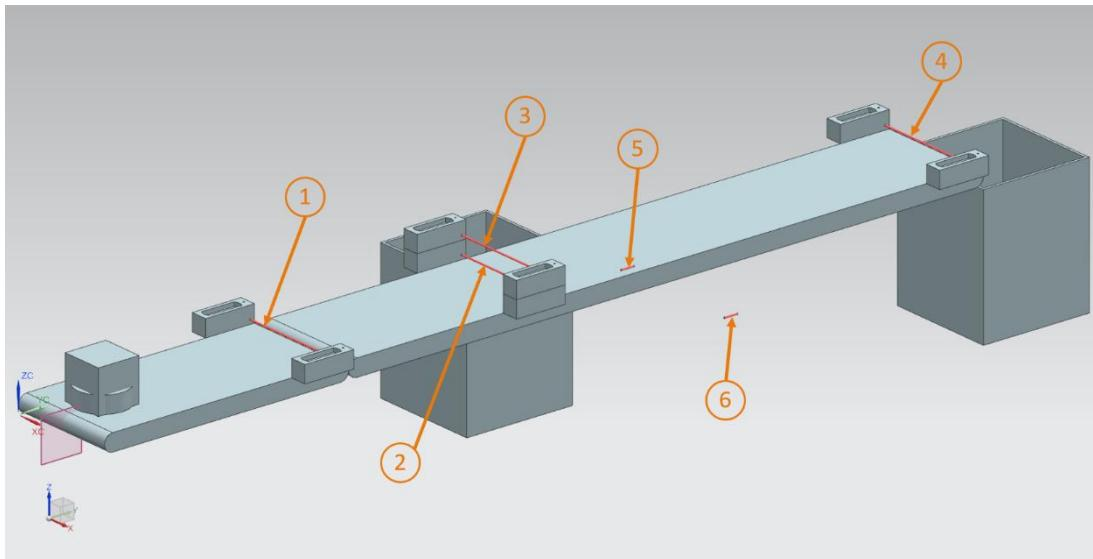
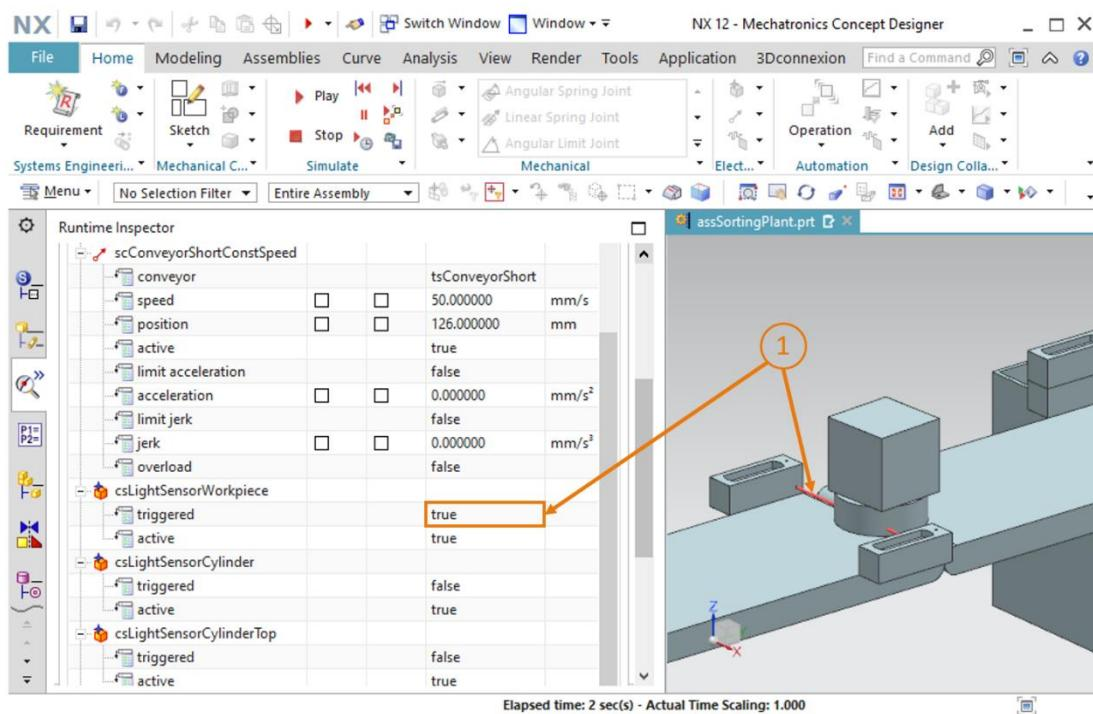

Figure 51: Overview of all collision sensors in the sorting plant
Figure 52: Behavior of the collision sensors of the light sensors during the simulation
→ You have now created the first collision sensor (highlighted in Figure 51, step 1). Define the remaining collision sensors as follows:
- The **lower light sensor in the middle of the rear conveyor belt "conveyorLong"** (see Figure 51, step 2) is to be created as a collision sensor named "**csLightSensorCylinder**" for the purpose of detecting cylindrical workpieces.
- The **upper light sensor in the middle of the rear conveyor belt "conveyorLong"** (see Figure 51, step 3) is to be created with the name "**csLightSensorCylinderTop**" for the unequivocal differentiation of cylindrical and cuboid workpieces. This is possible because the cylindrical and cuboid workpieces have different heights so that only the smaller cylindrical workpieces are detected by the lower light sensor and the larger cuboid workpieces are detected by both light sensors.
- The remaining workpieces on the conveyor belt are counted with the **light sensor at the end of the long conveyor belt "conveyorLong"** (see Figure 51, step 4). With correct sorting, only cuboid bodies will be remaining. The name of the associated collision sensor is to be "**csLightSensorCube**".
- The **limit sensor at the end of the ejector** (see Figure 51, step 5) will detect if the ejector is not yet fully extended. In this case, select **the limitSwitchSensor at the end of the ejector** as the collision sensor object in the Assembly Navigator. Name the collision sensor "**csLimitSwitchCylinderNotExtended**".
- The **limit sensor at the beginning of the ejector** (see Figure 51, step 6) signals that the ejector is fully retracted. Assign this collision sensor the name "**csLimitSwitchCylinderRetracted**".
→ Start the simulation as explained in Chapter 7.1, "Section: Starting and stopping a simulation in MCD". Start by testing only the behavior of the light sensors of the sorting plant. To do this, set the **active** signal of the "scConveyorShortConstSpeed" and "scConveyorLongConstSpeed" speed controls to "true", and the **active** signal of the two other speed controls to "false". You can see the conveying of both workpieces in the simulation. When the collision sensors of the light sensors are passed through (see Figure 51, steps 1 – 4), the "triggered" fields of the respective sensor are set to "true". Otherwise, they remain set to "false". This is illustrated by way of example for the first light sensor "csLightSensorWorkpiece" in Figure 52, step 1.